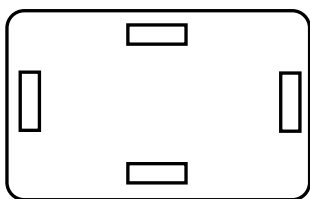

Figure 7
16. Figures 7, 8, 9 show 3 designed parts of a toy windmill to be cut by a CNC machine.
- b. Figure 10 below shows a piece of 3mm plywood. Sketch the outlines of figures 7, 8 and 9 on figure 10, below, as if they are going to be cut, taking care of wastage.
- c. The parts cut from Figures 7,8 and 9 are made of 3mm plywood. From the list provided below, select the correct type of classification for plywood.